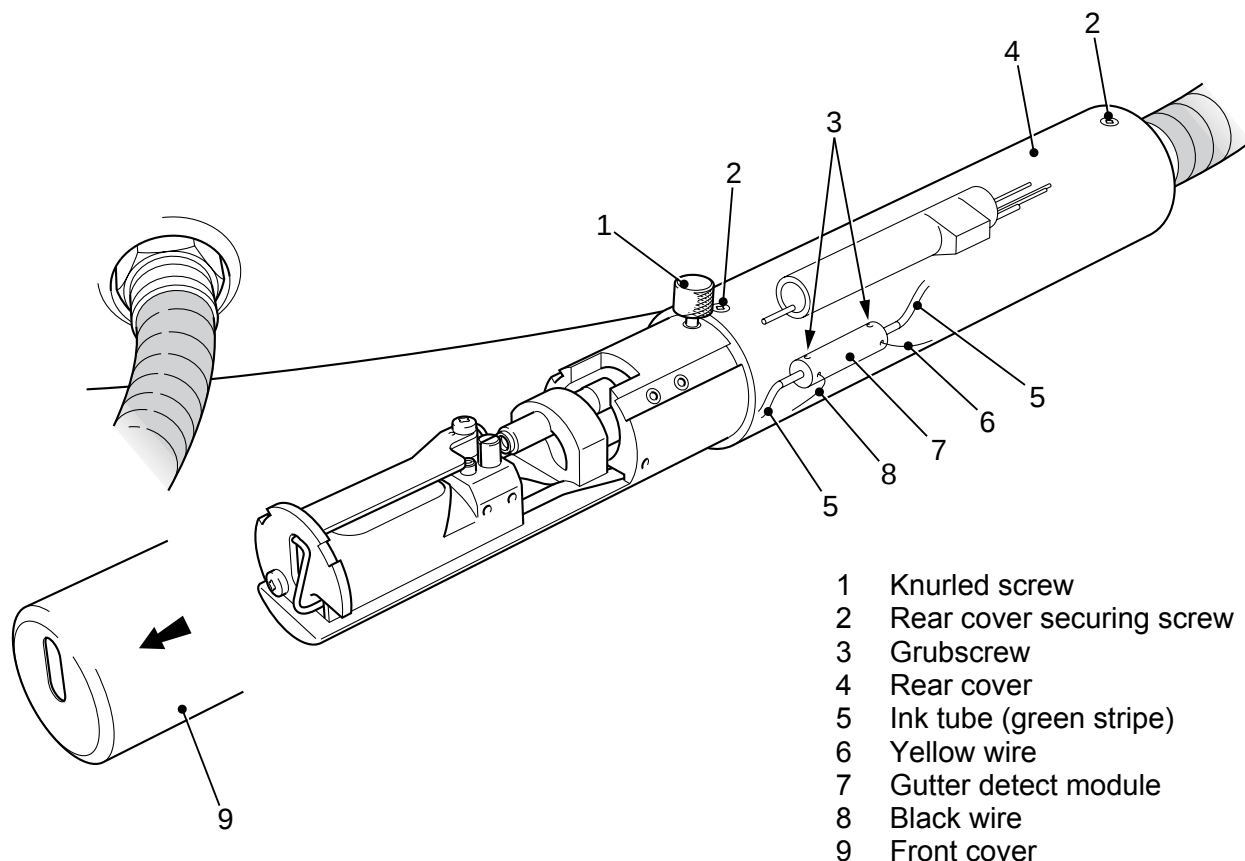

Fig 11.37 Gutter detect module removal
58 To remove the gutter detect module (Fig 11.37 (7)), proceed as follows:
- 58.1 Slacken the knurled screw (1) and slide the front cover (9) off the printhead.
- 59** To refit the gutter detect module (Fig 11.37 (7)), proceed as follows:
- 59.1 Place the gutter detect module in position and attach the ink tubes (green stripe) (5) to each end of the module.
- 59.2 Place the ends of the yellow wire (6) and the black wire (8) in the holes at the positions shown at Fig 11.37. Secure the wires by tightening the grubscrews (3).